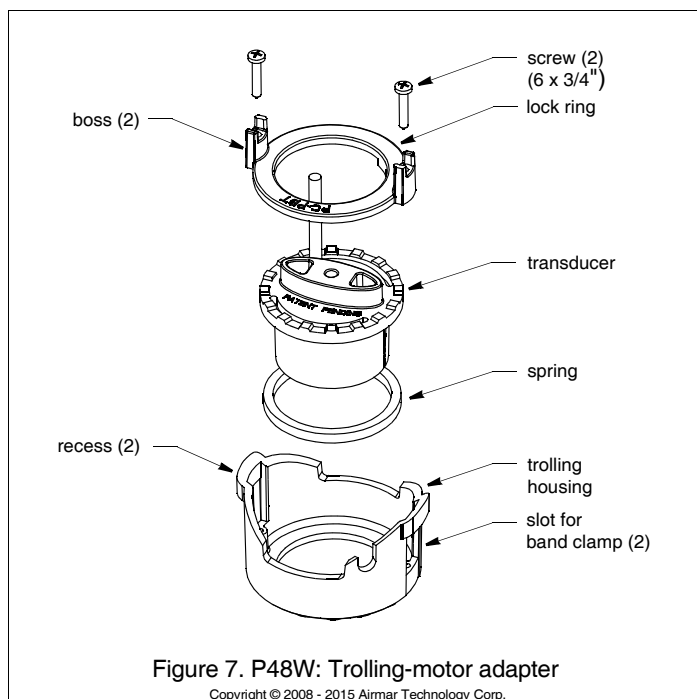

Figure 7. P48W: Trolling-motor adaptor
2. Insert the spring and transducer in the trolling housing (Figure 7).
2. Loosen the screw in the band clamp so that one end of the band is free. Pass the free end through the two slots in the trolling housing (Figure 7).